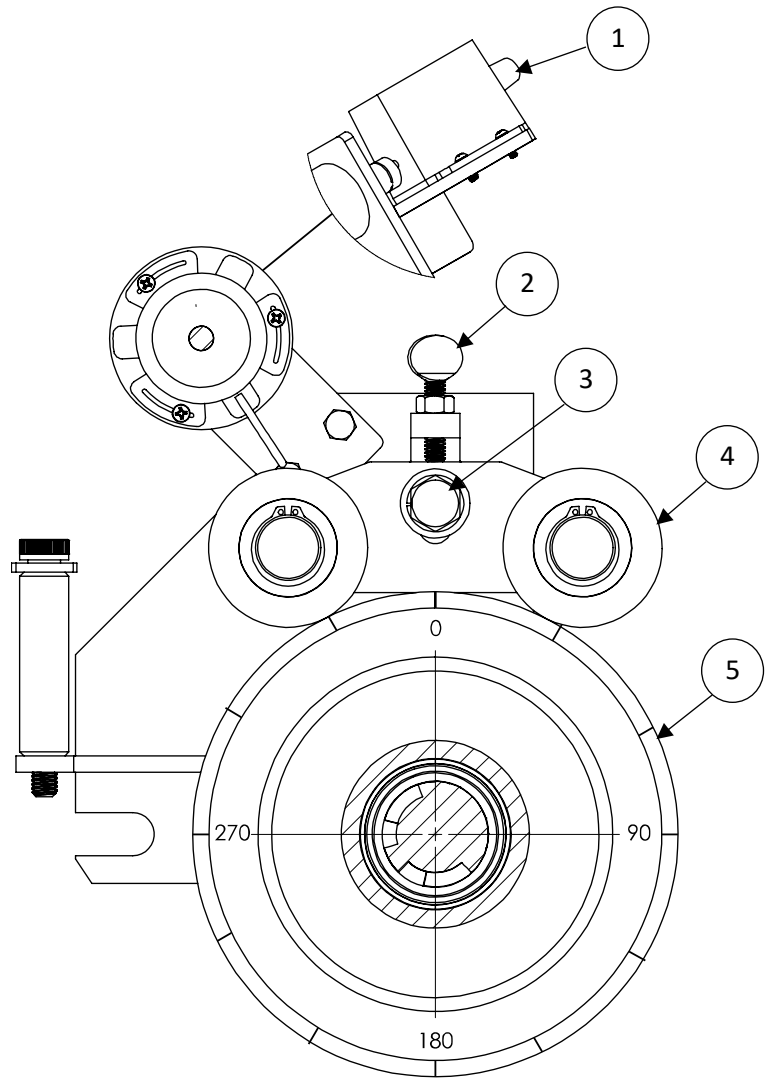

Figure 12
1. Zero-out the mechanical footage counter to 00000 by turning the knob (Figure 12 Item 1) on the end of the counter.
2. Turn the counter-sheave (Figure 12 Item 5), by hand, backwards until all nines (99999) appear on the counter.
3. Turn the counter-sheave (Figure 12 Item 5) forward until the nines go out of sight and zeros just center on the counter. This sets the counter-sheave and the counter at the beginning of the rotation count.
6. Rewind the cable and place the first tape mark under the bolt (Figure 12 Item 3) between the two pressure rollers (Figure 12 Item 4).
7. Set the mechanical footage counter at 00000 (Figure 12 Item 1).
8. Draw the cable out again until the second tape mark appears beneath the bolt (Figure 12 Item 3) between the two pressure rollers (Figure 12 Item 4).
10. To adjust the pressure rollers (Figure 12 Item 4), loosen the adjustment bolt between them (Figure 12 Item 3).
11. Turn the adjustment thumb screw (Figure 12 Item 2) above the adjustment bolt to either tighten or loosen the pressure rollers against the counter-sheave.
12. After adjusting, re-tighten the adjustment bolt (Figure 12 Item 3) between the pressure rollers.